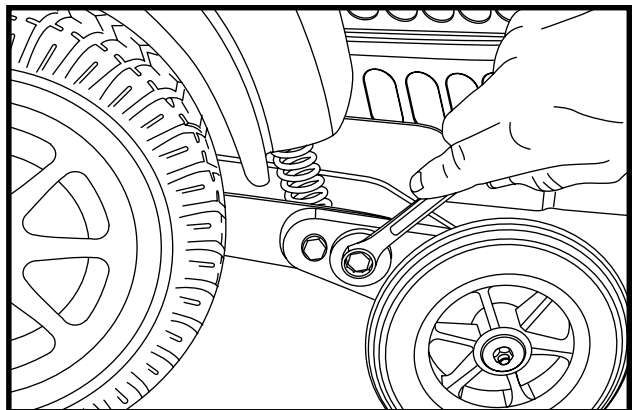

Figure 25. Anti-Tip Wheel Adjustment (Cam)
4. To adjust the anti-tip upward, turn the cam counterclockwise. To adjust the anti-tip downward, turn the cam clockwise. See figure 25.